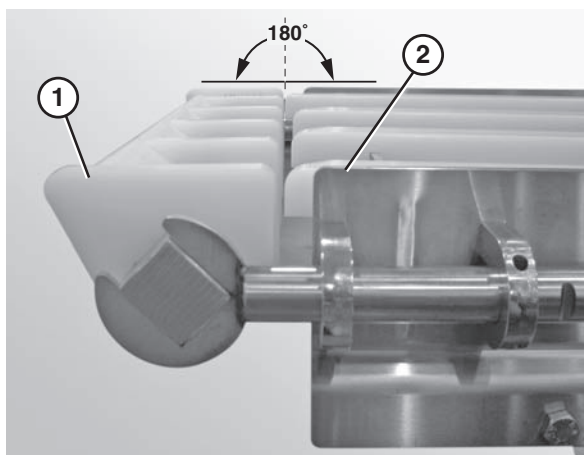

Figure 25
3. Ensure that the nose bar pucks (**Figure 25, item 1**) are in line with the conveyor frame (**Figure 25, item 2**).